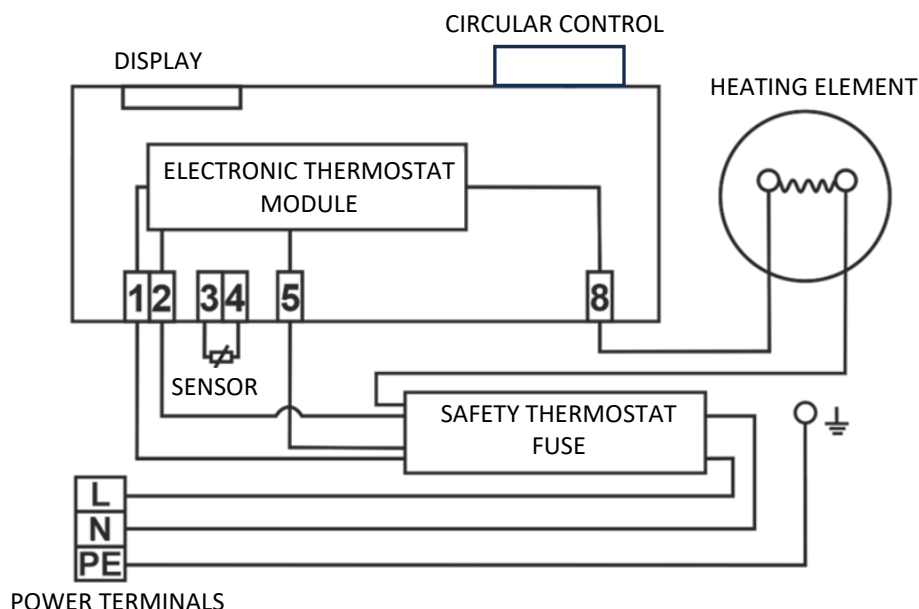

Figure 7
The factory wiring must not be changed! (Figure 7 ). The degree of protection of the electrical parts of the heater is IP 44. The power consumption of the electric element is 2000 W.
- The electrical connection diagram is attached to the heater on the electrical installation cover (Figure 7 ).